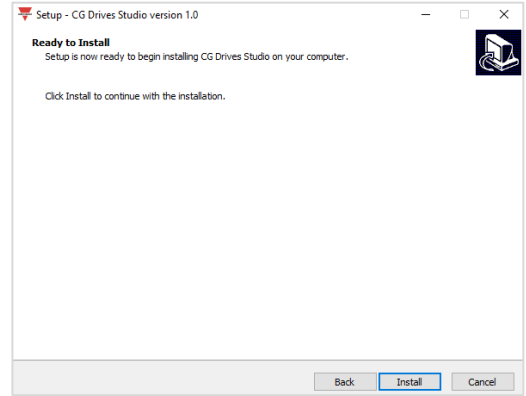

Figure 4: Software installation (2)
4. Click *Next* and then click *Install* (Figure 4)